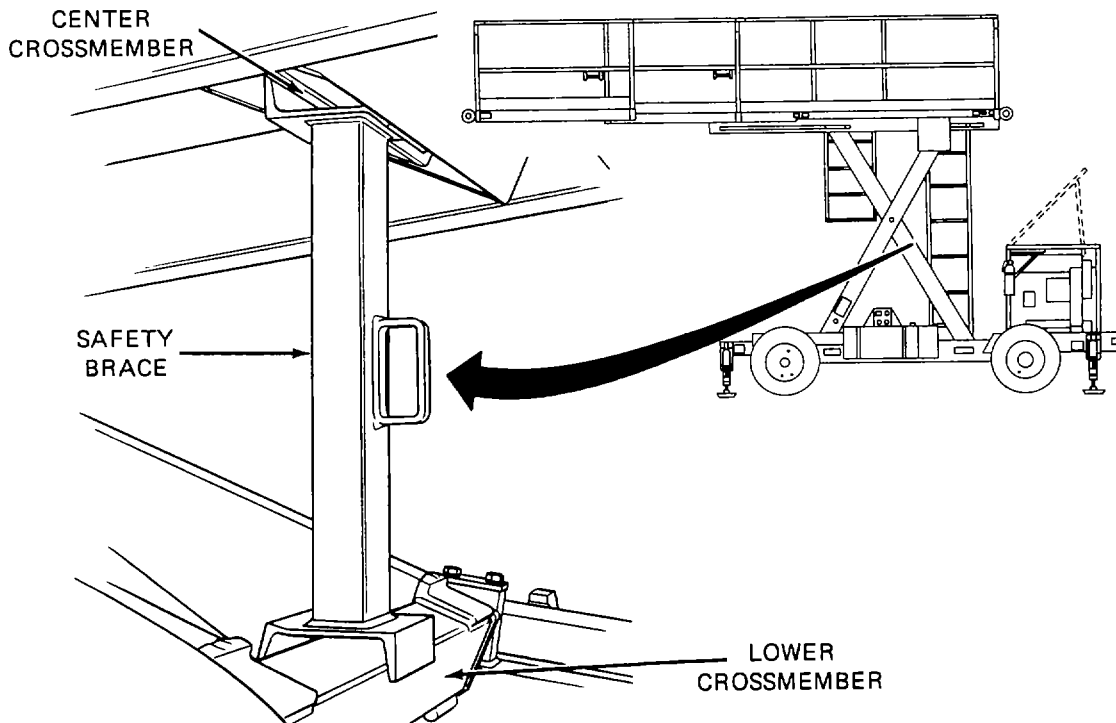

Figure 2-22. Service/Inspection Safety Brace (Installed).
- (2) To install the safety brace, raise the platform sufficiently to install the brace between lower and center crossmembers of inside scissor at rear of SPEMS. Lower the platform to lock the brace in position. See Figure 2-22.